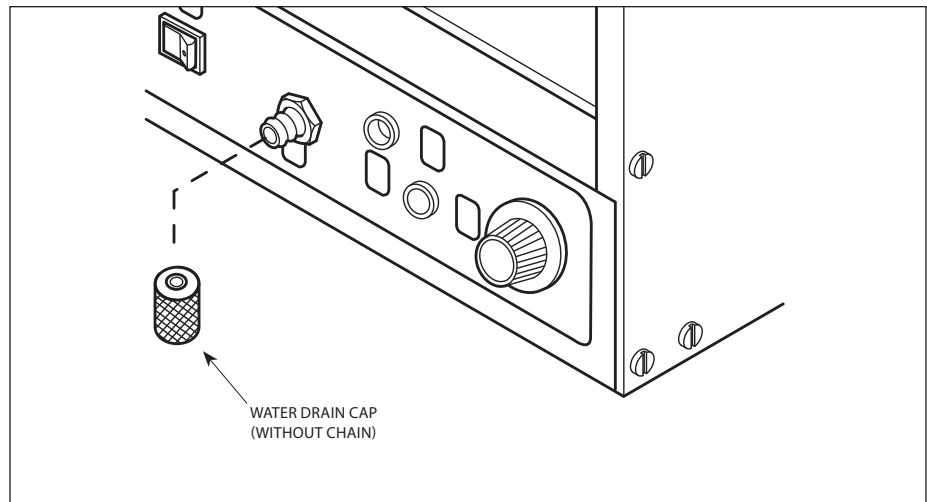

Figure 4. Draining Water from the Unit
4. Remove the Drain Cap (Figure 4) and allow all water to drain from the unit.